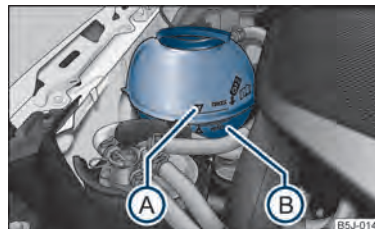

Fig. 125 Engine compartment: Coolant expansion bottle
- Check the level of coolant in the coolant expansion bottle ⇒ fig. 125. The coolant level when the engine is cold must lie between the "MIN" (B) and "MAX" (A) markings. The level may also rise slightly above the "MAX" marking when the engine is warm.
- Place a cloth over the cap of the coolant expansion reservoir → fig. 125 and unscrew the cap **carefully** by turning it to the left → .